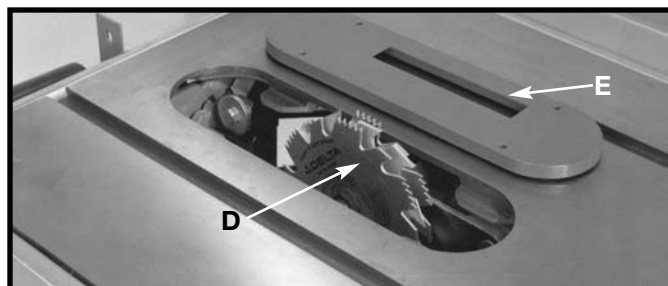

Fig. 74
2. Attach the dado head set (D) Fig. 74, to the saw arbor. **NOTE: THE OUTSIDE ARBOR FLANGE CAN NOT BE USED WITH THE DADO HEAD SET, TIGHTEN THE ARBOR NUT AGAINST THE DADO HEAD SET BODY. DO NOT LOSE THE OUTSIDE ARBOR FLANGE. IT WILL BE NEEDED WHEN REATTACHING A BLADE TO THE ARBOR.**
**⚠ CAUTION** THE ACCESSORY DADO HEAD SET TABLE INSERT (E) FIG. 74, MUST BE USED IN PLACE OF THE STANDARD TABLE INSERT.